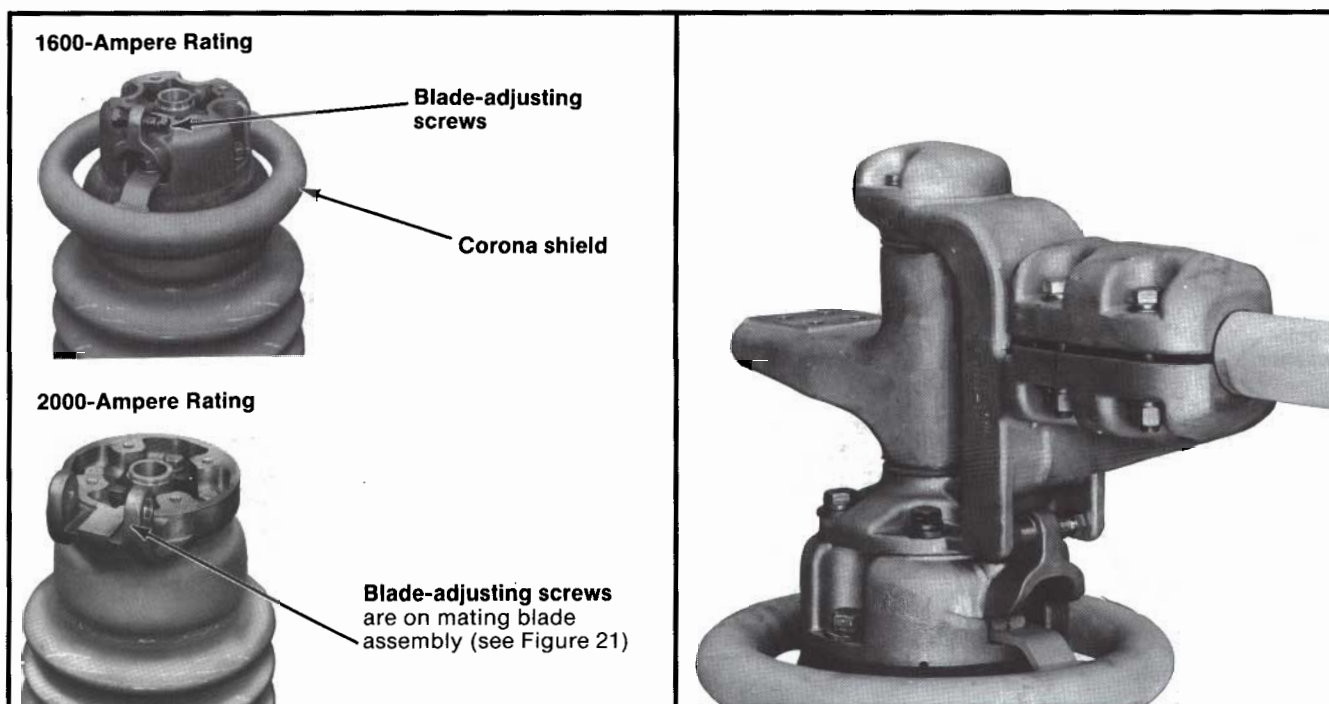

Figure 8. Blade-adjustment discs. At right, blade assembly has been added (typical of 1600-ampere rating).
- (b) At the disconnect end, loosen the adjusting screws at the blade-adjustment disc. Then remove the bolts fastening the blade assembly to the blade-adjustment disc. See Figure 8. Retain the stainless-steel hardware (including the special, thick flat washers) for later reassembly.